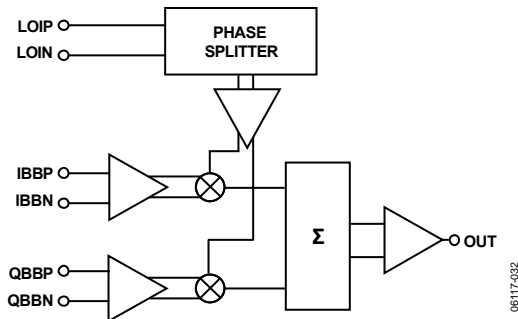

Figure 24. Block Diagram
The ADL5370 can be divided into five circuit blocks: the local oscillator (LO) interface, the baseband voltage-to-current (V-to-I) converter, the mixers, the differential-to-single-ended (D-to-S) amplifier, and the bias circuit. A detailed block diagram of the device is shown in Figure 24.